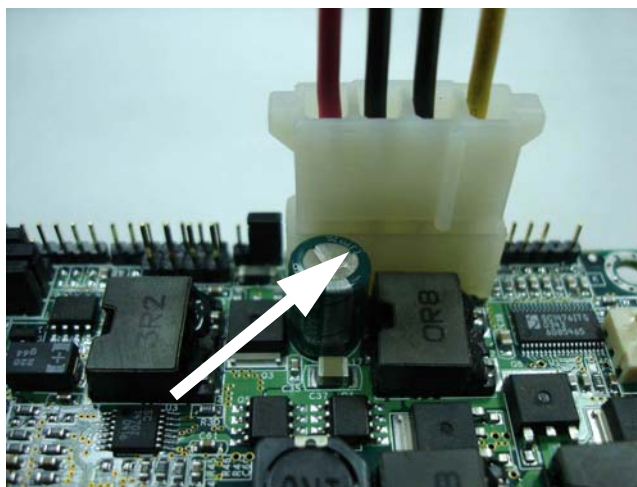

Figure 5-9
Step 1: Please connect 4 pins IDE peripheral power connector to CN1 in order to make system stand-alone (See Figure 5-9)